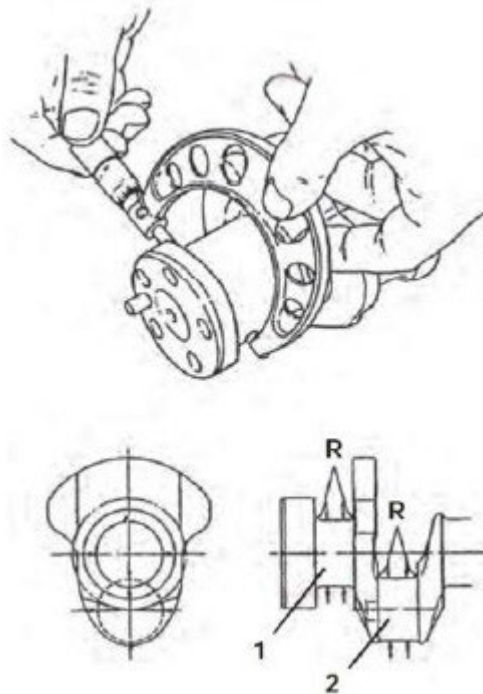

Figure 115.
4. Use a Magnaflux® to inspect the crankshaft for cracks. Replace the crankshaft if fractures are found. Measure the outside diameter of each crankpin (Figure 115, Item 2) and main bearing journal (Figure 115, Item 1). See the *Crankshaft Mechanical Specifications Chart*. Take measurements at several places around each bearing surface. If not within specification, grind the journals and install undersize bearings, or replace the crankshaft.